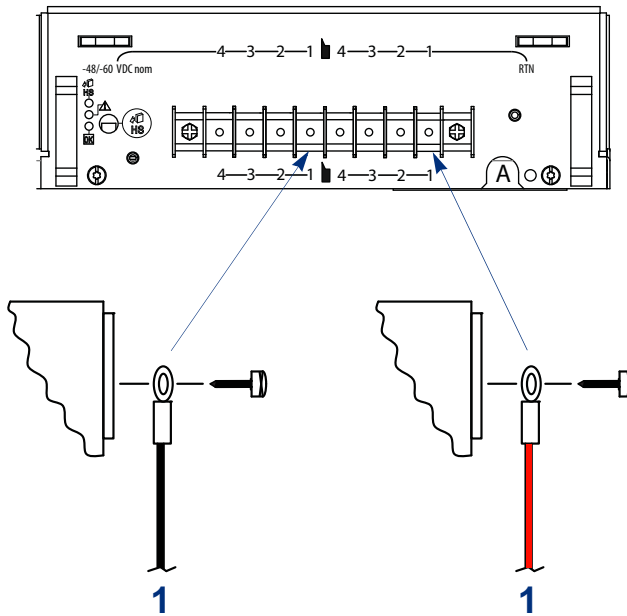

Figure 10. VMG-14, PEM-A output power ring terminal assembly
8. Place the other side of the same set of the #10 ring terminals over the two number 1 slots of PEM-A's output terminal block as seen in Figure 10.